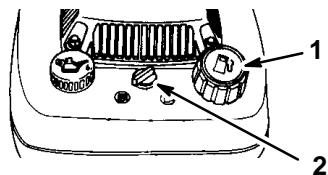

Figure 7
2. Clean around the fuel tank cap and remove the cap from the tank (Fig. 7).
2. Open the fuel valve (Fig. 7).
- Pull the wire off of the spark plug and close the fuel valve (Fig. 7) if the mower will be unattended or not used.